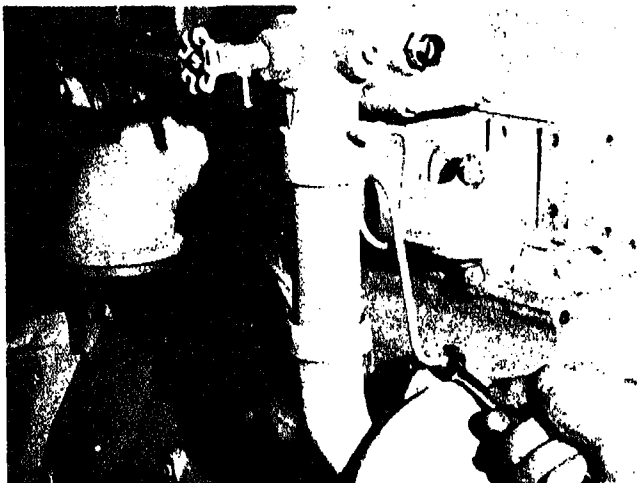

Fig. 0-24. Removing air bleed tube
1. Remove water pump air bleed tube, Fig. 0-24.